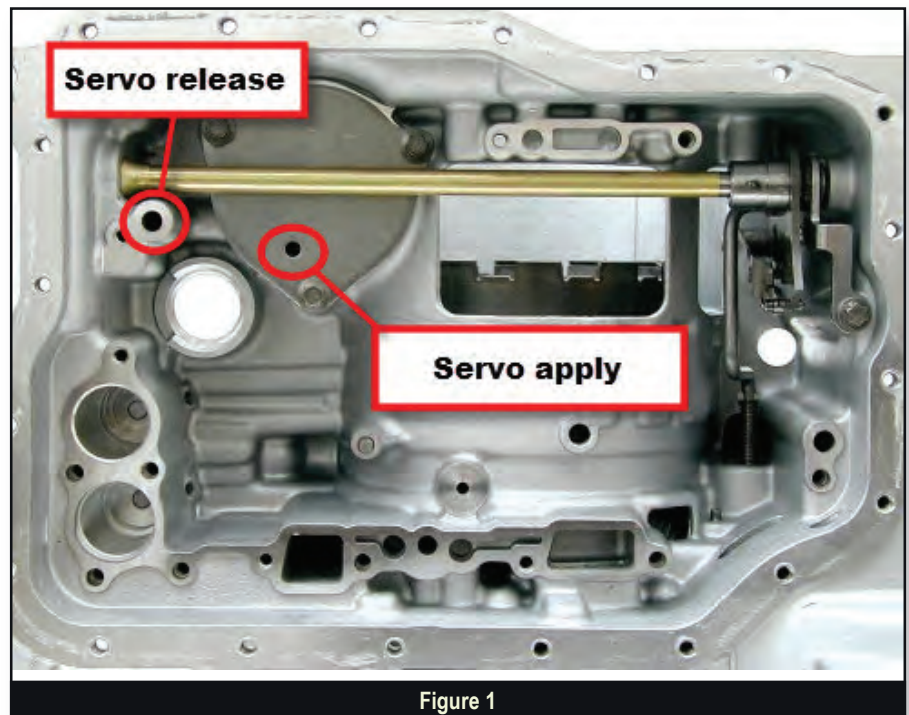

Figure 1
- Locate the 2-4 band release port (figure 1).